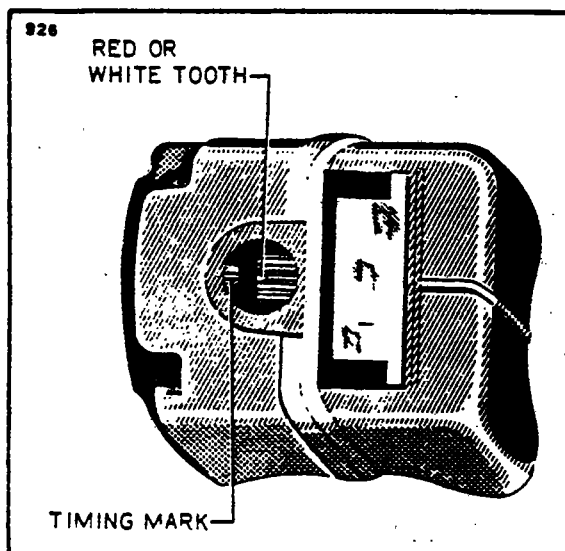
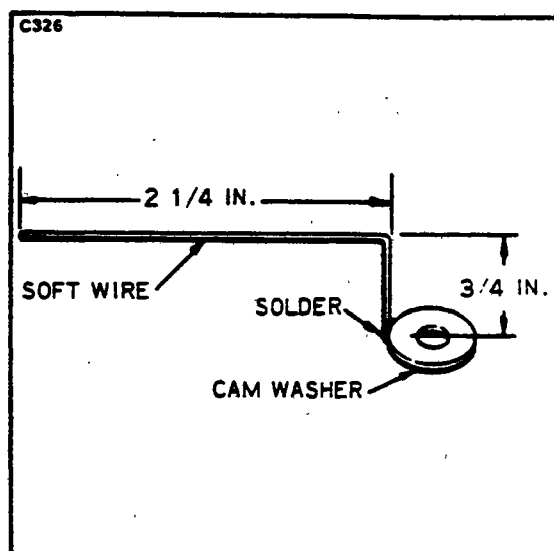

Figure 8-16. Magneto Timing Marks
Figure 8-17. Timing Pointer
c. With timing plate and pointer attached (Refer to Figure 8-17.) and pointer set at zero, rotate coupling from neutral in a left hand direction 10 degrees. Appearing through timing hole, ascertain if the white or red tooth aligns with the white line of the distributor block. (Refer to Figure 8-16.) Alignment may not vary over ± 4 degrees.
A timing kit, including timing plate, etc. may be purchased through the engine or magneto manufacturer. A pointer may be formed as shown in Figure 8-17.